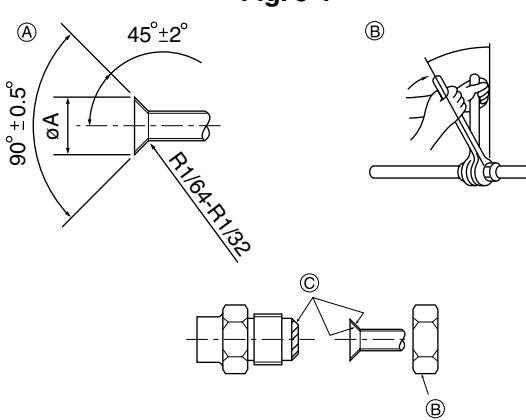

Fig. 3-2
3.2. Connecting pipes (Fig. 3-2)
- (A) Flare cutting dimensions